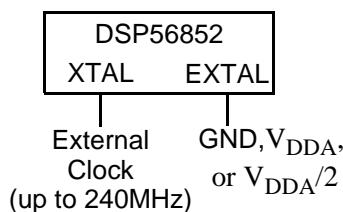

Figure 9. Connecting a High Speed External Clock Signal using XTAL
The recommended method of connecting an external clock is given in Figure 9. The external clock source is connected to XTAL and the EXTAL pin is held at ground (recommended), V_{DDA} , or $V_{DDA}/2$. The TOD_SEL bit in CGM must be set to 1.
1. See **Figure 9** for details on using the recommended connection of an external clock driver.